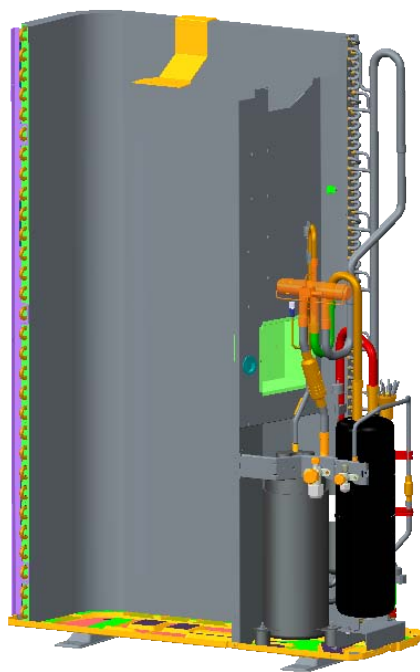

Fig.11
- Remove the 4-way valve.[See Fig.11]